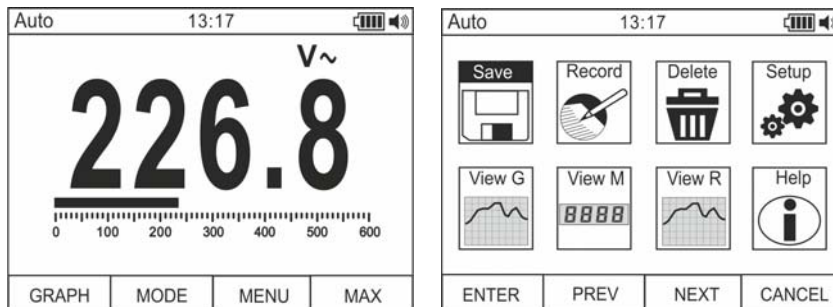

Fig. 9: Instrument general menu
1. With a measurement on the display (see Fig. 9 – left side), press function key **F3** to enter the instrument's general menu. The screen (see Fig. 9 – right side) is shown on the display.